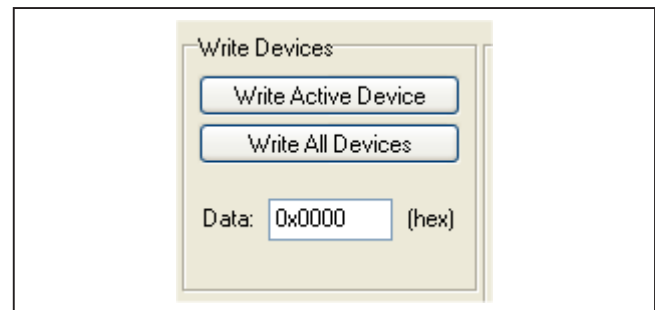

Figure 4. Write Devices Box
3. Enter the hex value (#####) into the **Data: 0x** edit box in the **Write Devices** box (Figure 4).